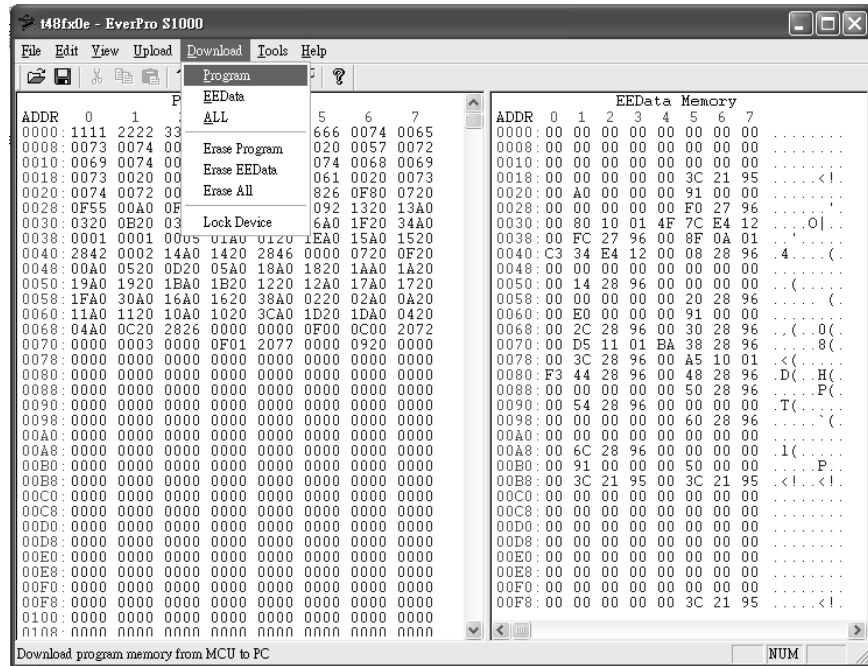

Figure 5
- Step 2: There are three options in the Download menu: "Program", "EEData" and "ALL". Selecting "Program" will program the Program Memory, selecting "EEData" will program the EEPROM memory and selecting "ALL" will program both. See Figure 5.